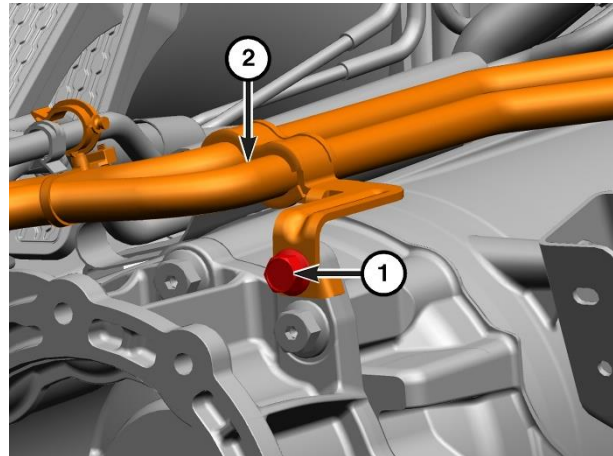

Figure 39 – Coolant Hoses
51. Remove the fastener (1) that hold the transmission heater coolant hoses (2) to the transmission (Figure 39).
85. Position the transmission heater coolant hoses (2) to the transmission and install the fastener (1), tighten to 22 N·m (16 Ft. Lbs.) (Figure 39).